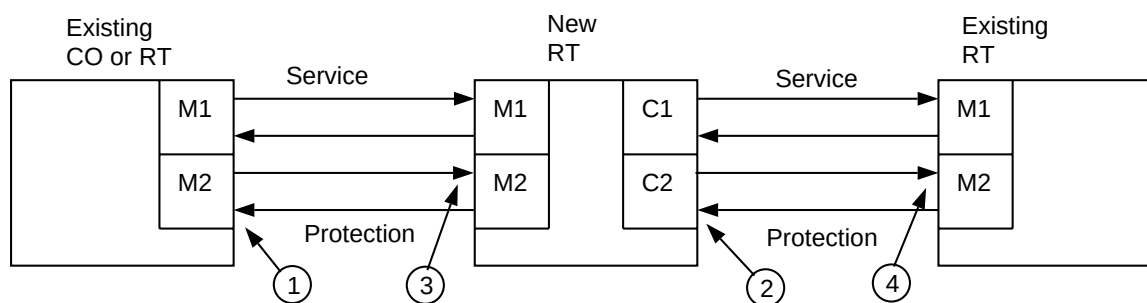
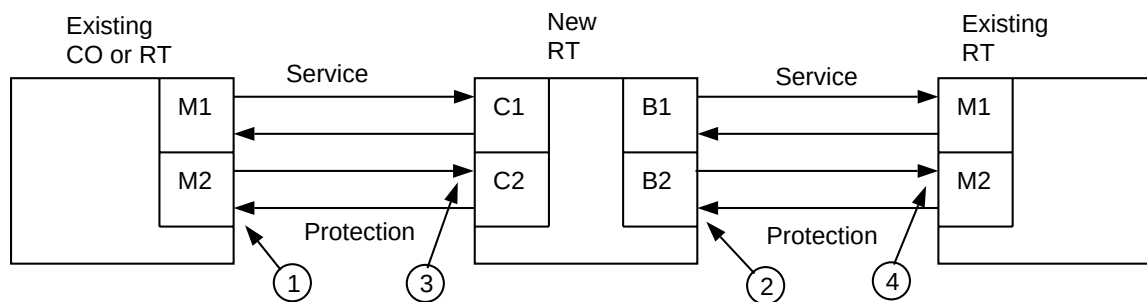

Figure 7. Use of switch-line Command to Return System to Normal
Figure 8. Use of switch-line Command to Return System to Normal
20. At the following locations, use **switch-line:address:pri=reset** command in the following order to return system to normal state with no external switch requests (For example, see Figures 7 and 8):
1. Existing upstream shelf (CO, or RT toward CO) optical interface. [For example, Figures 7 and 8: **MAIN**, (*address*=main).]
2. New shelf (RT) downstream (away from CO) optical interface. [For example, Figure 7: **FUNCTION UNITS C**, (*address*=fn-c). Figure 8: **FUNCTION UNITS B**, (*address*=fn-b).]
3. New shelf (RT) upstream (toward CO) optical interface. [For example, Figure 7: **MAIN**, (*address*=main). Figure 8: **FUNCTION UNITS C**, (*address*=fn-c).]
4. Existing downstream shelf (RT away from CO) optical interface. [For example, Figures 7 and 8: **MAIN**, (*address*=main).]